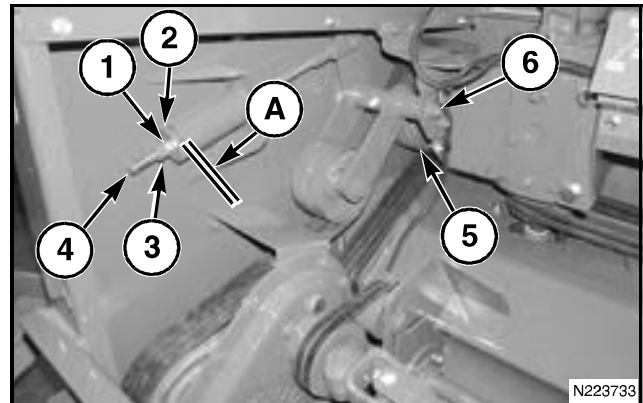

FIG. 19
FIG. 19: Hold the retaining nut (1) next to the spring washer (2) and loosen the jam nut (3) installed on the adjustment rod (4). The gap (A) between the idler spring tube and the spring washer must be 2 to 4 mm (0.07 to 0.15 in). Hold the retaining nut and tighten the jam nut.